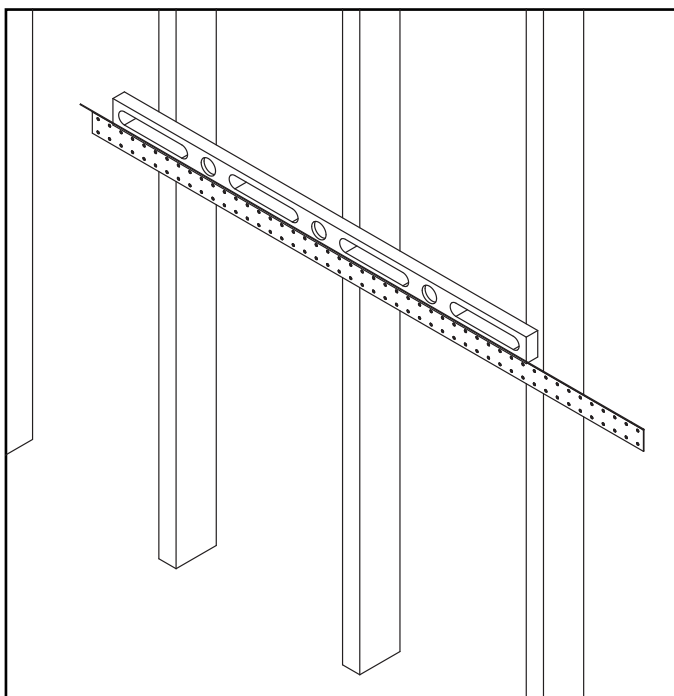

Figure 2 Level Hanging Bracket
2. Hold the hanging bracket up to the wall surface, centered at the desired location, and ensure it is parallel to the floor using a level. See Figure 2.